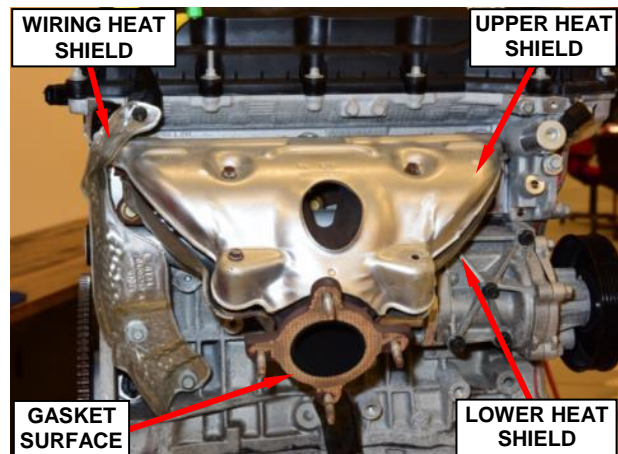

Figure 110 – Heat Shields
122. Remove and save the one nut and two bolts and the engine wiring heat shield (Figure 110).
a. Remove and save the exhaust manifold heat shield bolts (Figure 110).
b. Remove and save the upper and lower exhaust manifold heat shields (Figure 110).
c. Clean the catalytic converter gasket sealing surface (Figure 110).
- e. Position the upper and lower exhaust manifold heat shields (Figure 110).
- f. Install the exhaust manifold heat shield bolts (Figure 110). Tighten the bolts to 80 in. lbs. (9 N·m).
150. Position the engine wiring heat shield then install the fasteners; one nut and two bolts (Figure 110). Tighten the bolts to 80 in. lbs. (9 N·m).